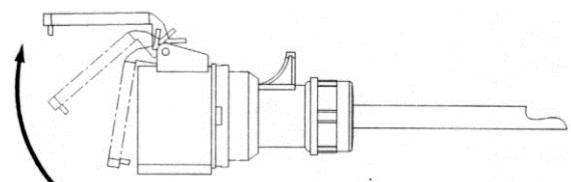

Figure 2
- When you connect the power connector with the appliance, open the lid along with the arrowhead pointed direction, pay attention to the direction. (Figure 2)